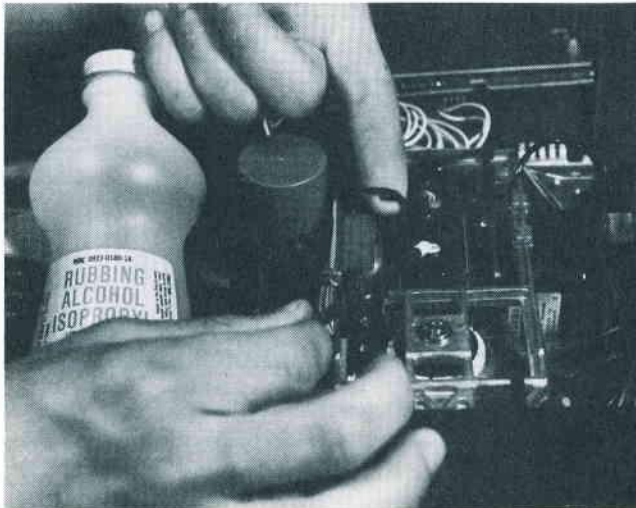

Fig. 5-8. Drive read heads can be cleaned using isopropyl alcohol and a lint-free swab.
5. Drive heads can also be cleaned with alcohol and a cotton swab wrapped in a lint-free material (see Fig. 5-8). With manual alcohol-and-swab cleaning, you could accidentally scrub the pressure
13. Using a special foam or wrapped cotton swab dampened with cleaning solvent, gently rub the head and the pad (refer to Fig. 5-8).